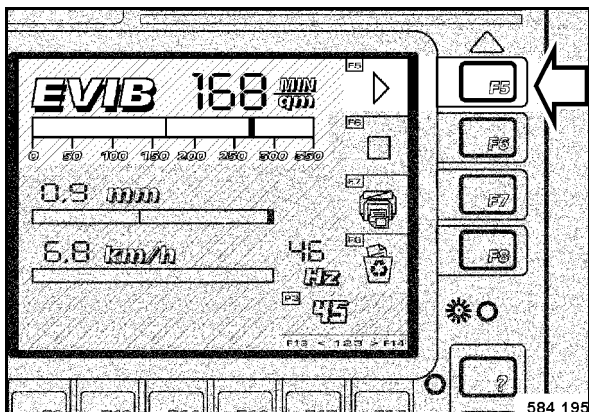

Fig. 96
- When mark 1 is reached, press button F5 "START" (Fig. 96).